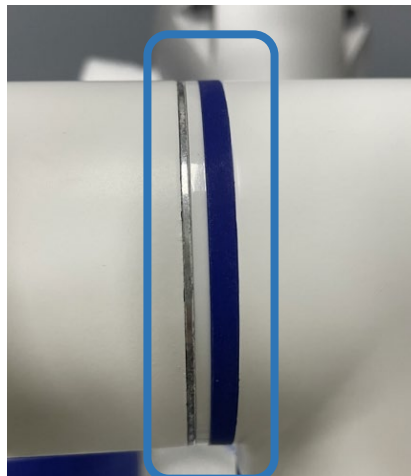

Figure 3-5 Install supporting rings and rubber rings
- Put down the plastic supporting ring. Then gently superimpose the rubber ring onto the supporting ring as Figure 3-5: